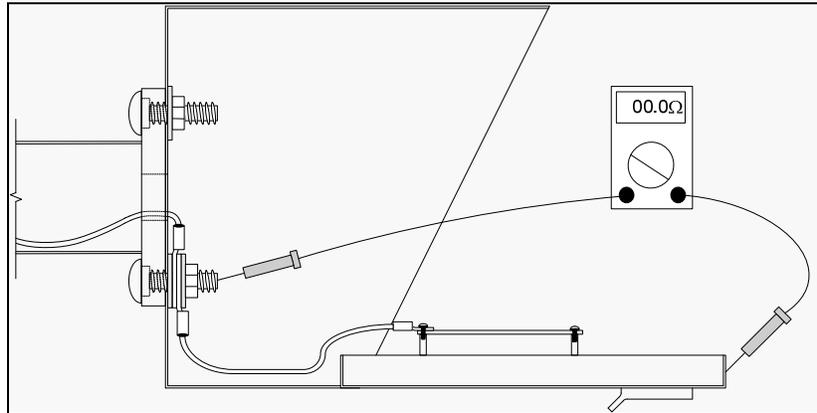

Figure 15 Continuity Testing – Bonding Wire to Faceplate
Step 2: Measure the resistance from the bonding wire to the faceplate as shown in **Figure 15** below.